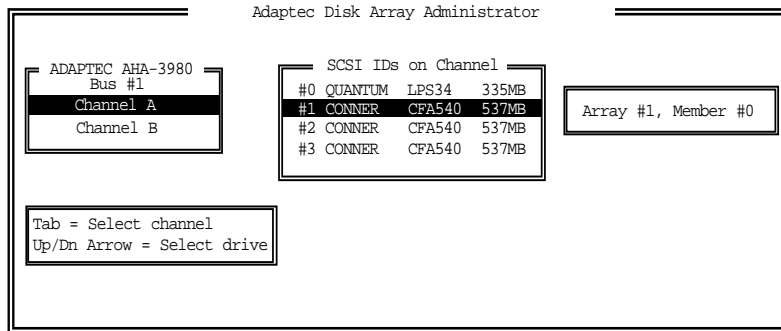

Figure 9-26. Displaying Information about Arrays and Drives
- 3 Select **D**isplay Host **A**dapter Drives. A screen similar to that in Figure 9-26 appears.